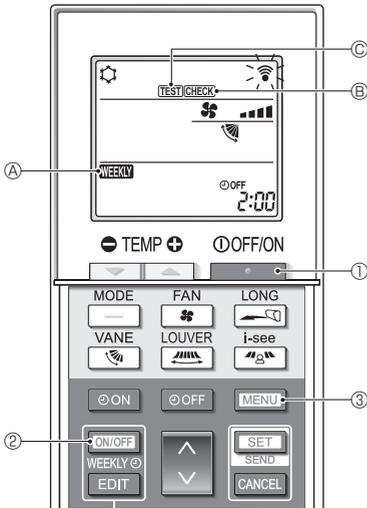

Fig. 7-1
7.1. Test run (Fig. 7-1)
- Press the **POWER** button ① to stop the air conditioner.
- If the weekly timer is enabled (**WEEKLY** ④ is on), press the **ON/OFF WEEKLY** button ② to disable it (**WEEKLY** ④ is off).
- Press the **MENU** button ③ for 5 seconds.
- CHECK** ⑥ comes on and the unit enters the service mode.
- Press the **MENU** button ③.
- TEST** ⑦ comes on and the unit enters the test run mode.